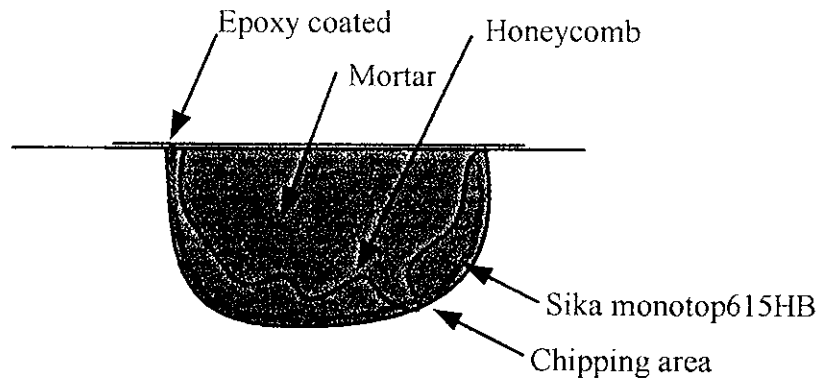

Fig.6-2 Repair method for water leakage condition of honeycomb
- Step 2 : Clean the cut surface and then fill the Sika 102 with nipple and pipe for leaking water divert (refer fig. 6-2)
3. Construction Tolerances for Tunnel Lining with Clause 4.1.9 (3)(iii) of Technical Specification